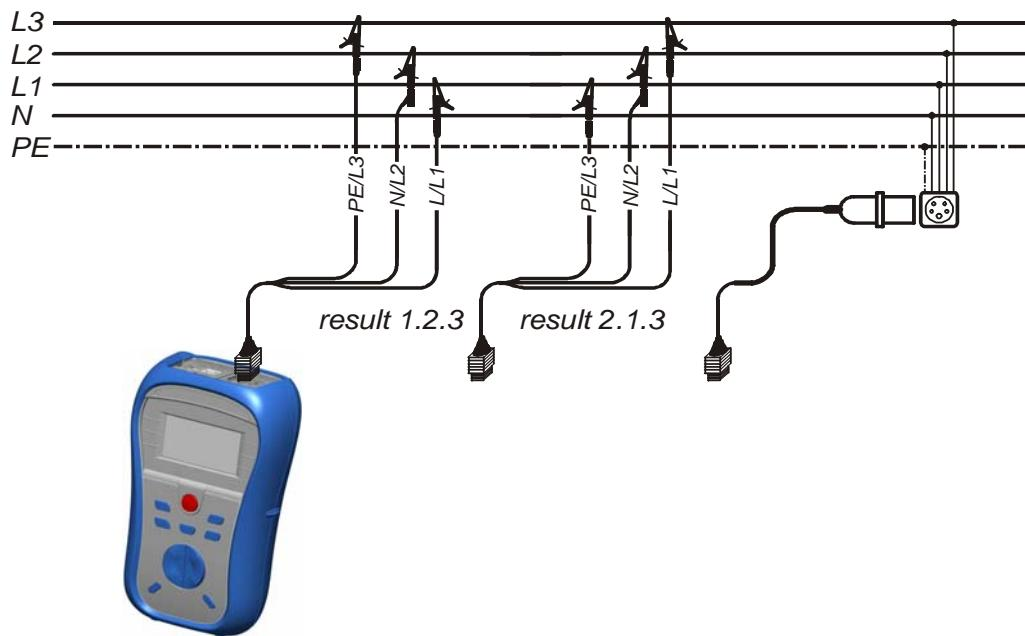

Figure 5.5: Connection of universal test cable and optional adapter in three-phase system
- **Connect** test leads to the item to be tested (see *figures 5.5 and 5.6*).